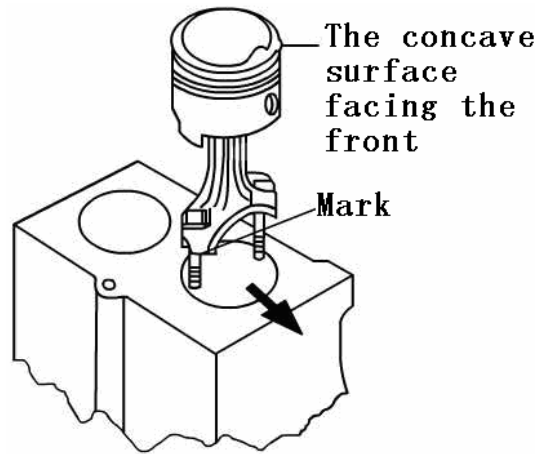

Fig.3-9 The direction of piston and connecting rod in cylinder
- (1) Connecting rod bearing matching group number=connecting rod big end matching group number-connecting rod neck matching group number。
- (2) Upper and lower connecting rod should be fitted with the same group bearing。
B. When installing two gas ring and the combined oil ring into grooves of piston. Stagger their opening (fig.3-9). The marked surface of the first and second rings should face piston head